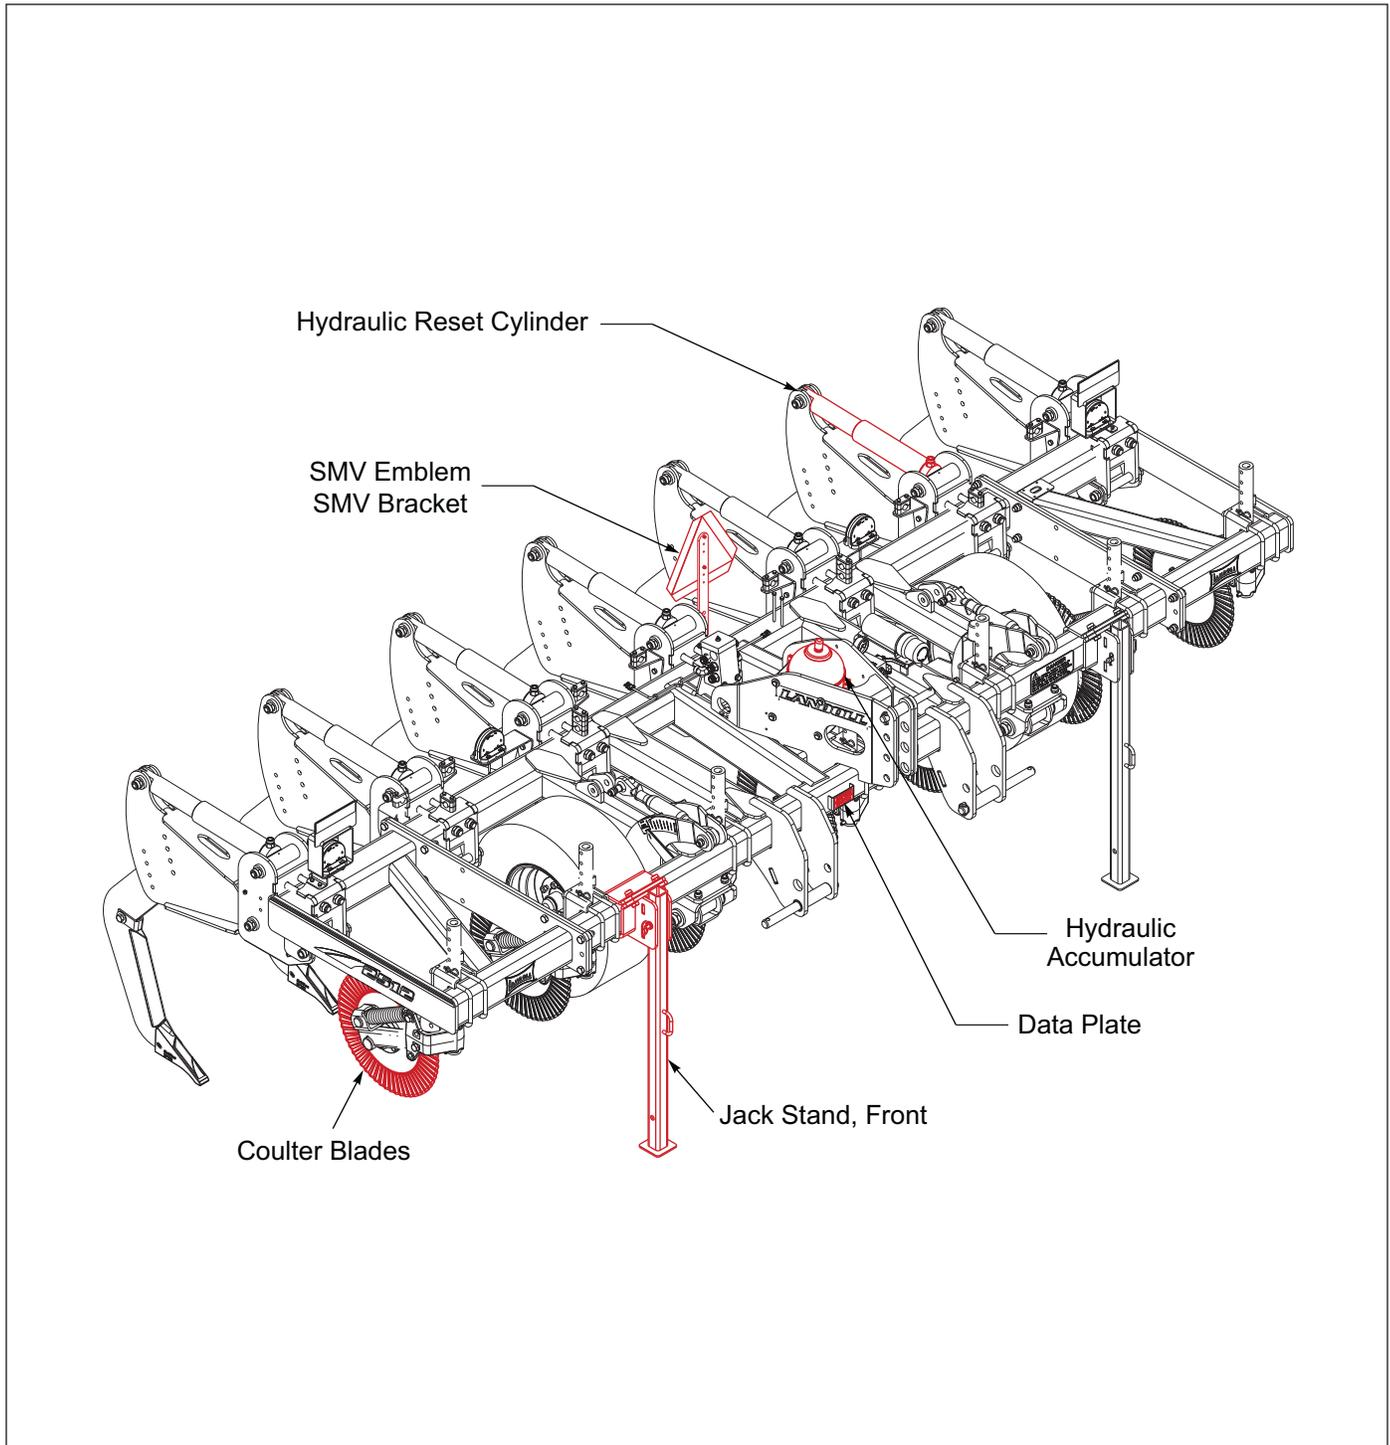

Figure 3-3: 2512 Series Parts Identification
1. Attach the SMV Mounting Bracket at a point where emblem is visible from rear of machine, using U-Bolt and 5/8-11 flange head serrated nuts **See Figure 3-3.**